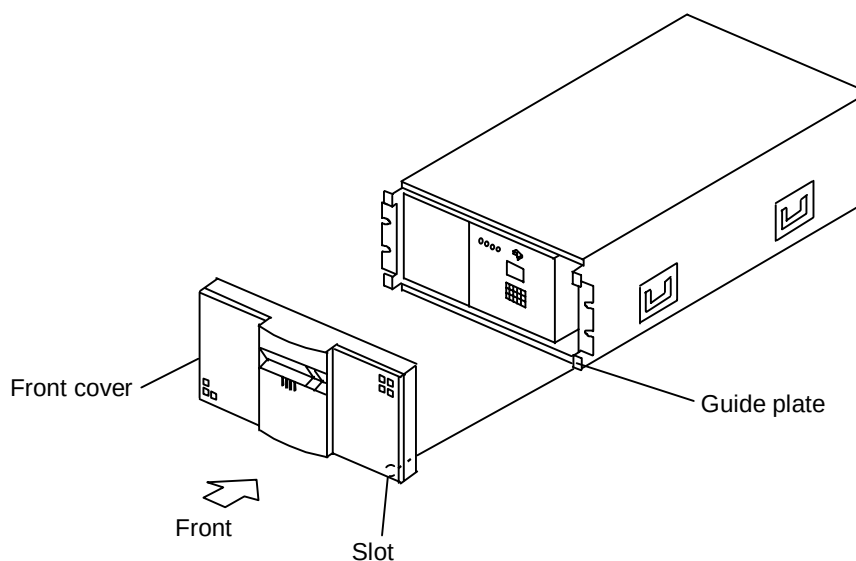

Figure 2.5.1 Attaching/Removing the Front Cover
- (1) Removing procedure. (See Figure 2.5.1.)
① Hold the grooves at both sides of the front cover and pull it toward you.
- (2) Attaching procedure. (See Figure 2.5.1.)
① Fit the guide plate of the main body with the slots of the front cover (four places), press the front cover against them.